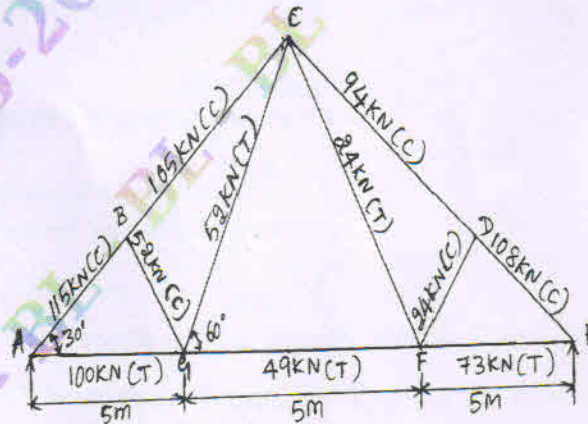

Fig Q3
- 3 Design a roof truss shown in Fig Q3 with forces in each member along with its nature, also design end with gusset plate using black bolt of property class 4.6. Also design the support consisting of shoe angle and bearing plate by considering support reaction of 150 kN. Anchor bolts are subjected to an uplift of 15 kN at each support. M20 concrete is used at supports. Also draw the elevation of truss greater than half plan.